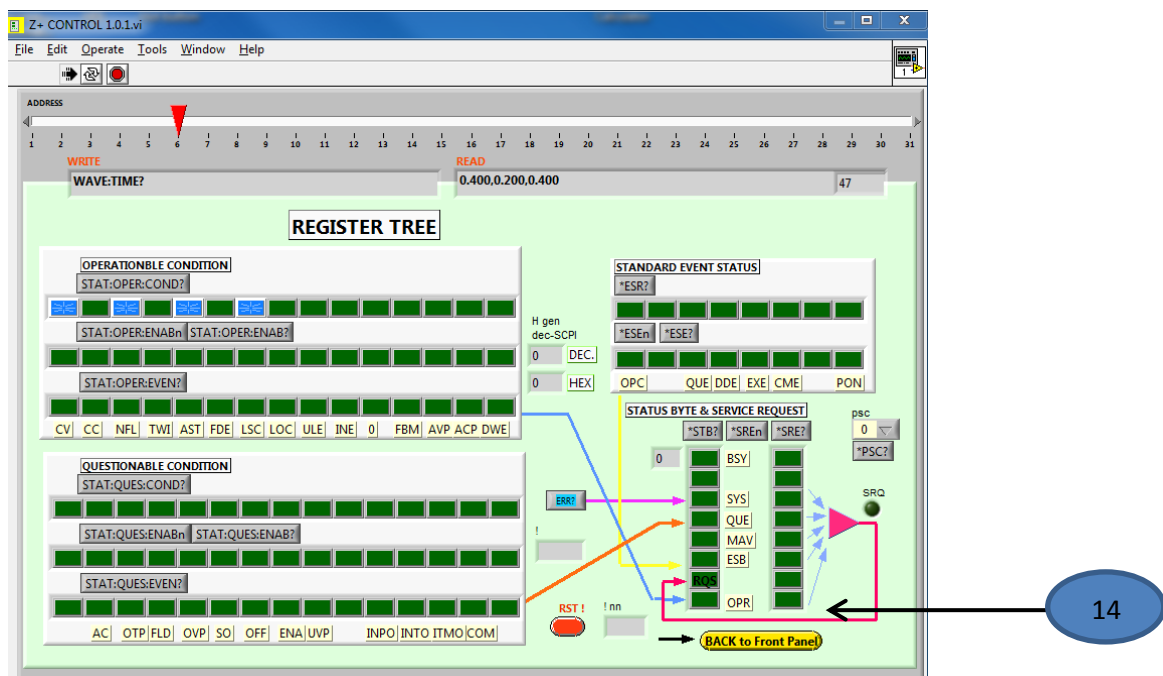

Fig 13
13. Press "Register Tree" Button (13) for setting and viewing Register tree.
Refer to Fig 13. Press button (14) to return to front panel.